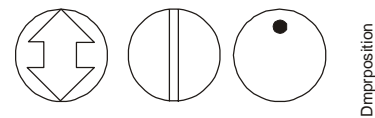

Figure 6: Damper Position Icons
- Make sure that the damper blade is visually accessible or its position is permanently marked on the end of the damper shaft as shown in Figure 6.